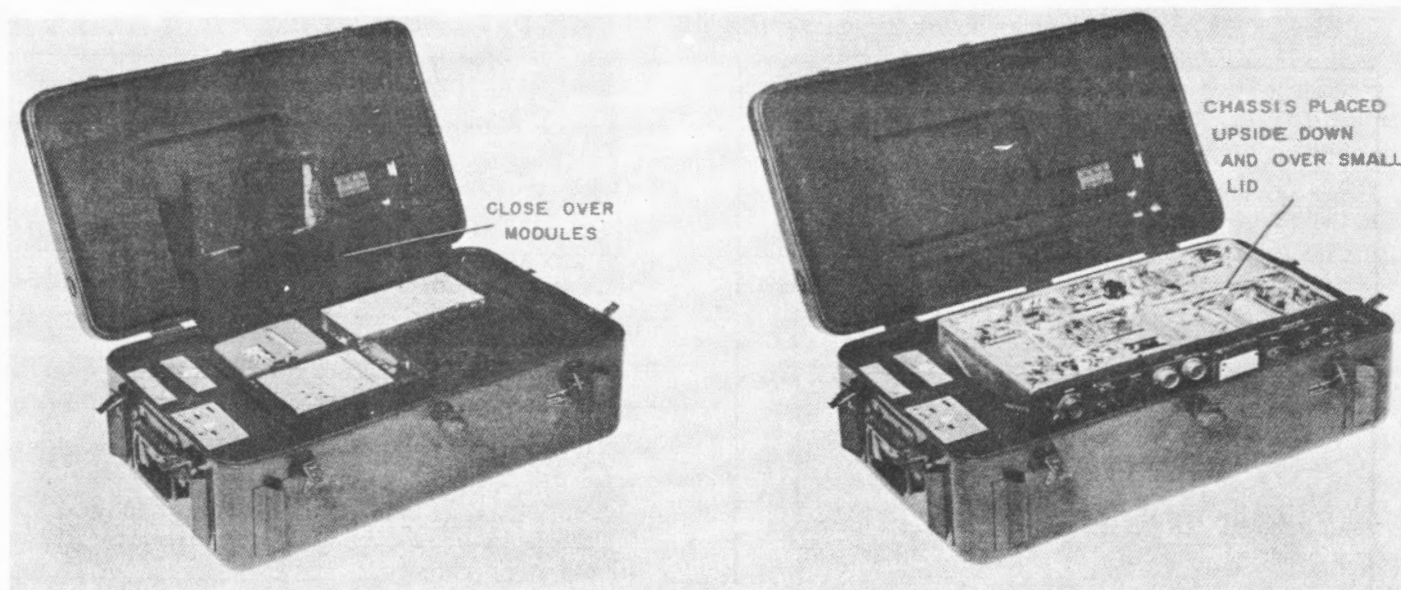

Figure 1-8. Accessories Case CY-3657/PRC-47
j. ACCESSORIES CASE CY-3657/PRC-47. - Accessories Case CY-3657/PRC-47, shown in figure 1-8, is a special carrying case for transport and storage of spare modules for Radio Set AN/PRC-47. The accessories case is provided with shaped lining and necessary trays to provide protection for the modules against transport and storage damage. Allowances for this item are included in appropriate Maintenance Float directives.